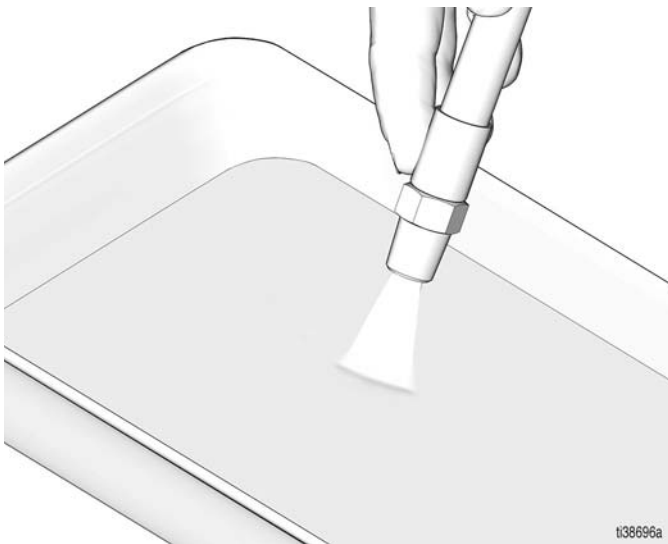

FIG. 15
2. Turn on the Bleed-Type Master Air Valve (E) and Fluid Drain Valve (H). See **Typical Installation**, page 6.
3. Flush the fluid being dispensed through the equipment until the fluid runs clear of particles or visible contaminants (FIG. 15).